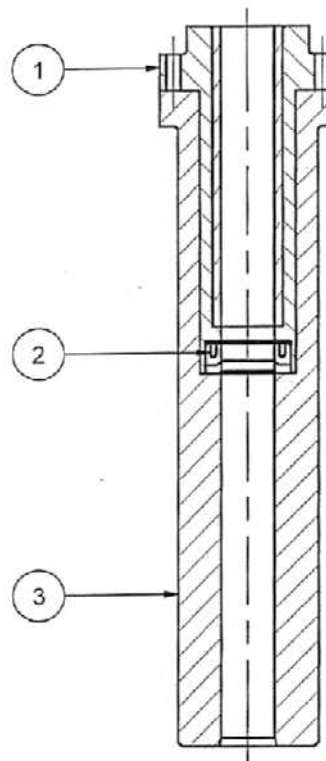

Figure 5. 2nd Stage Cylinder Assembly.
- f. Slide the top cylinder (1) along with the seal (2) out of the bottom cylinder (3). Refer to Figure 5.
- k. Carefully position and orient the head on the 2nd stage cylinder (9) and in line with the threaded studs (32). Move the head assembly against the 2nd stage cylinder (9) and torque the nuts (33) in 2 or 3 ft-lbs.
Legend For Figure 5